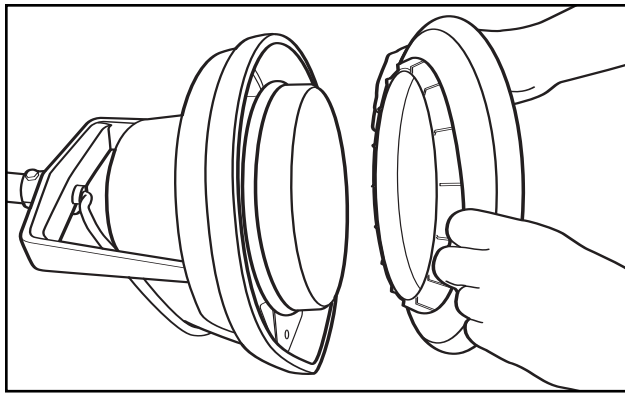

Figure 1. Attaching Black Drive Pad Holder or Brush
3. Place the black drive pad holder on the beige holder pan found on the bottom of the Orbiter® Multi-Floor Machine (See Figure 1, next page).
2. With the bristles pointed away from the unit, place the brush on the beige holder pan found on the bottom of the Orbiter® Multi-Floor Machine (See Figure 1, next page).